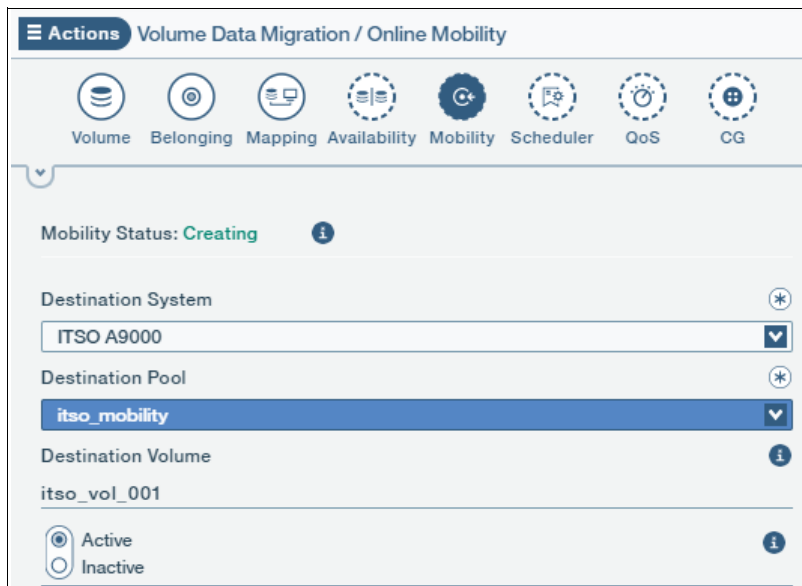

Figure 7-35 Define the destination information
2. Enter the information for the destination system as shown in Figure 7-35. The volume on the destination side will be created by this process automatically. The name of the destination volume will match the source volume. Click **Create** to create the relationship and activate the process.